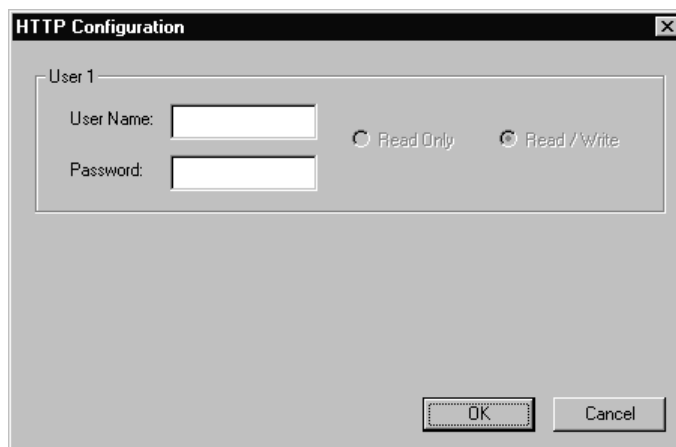

Figure 11.1 – HTTP Configuration Dialog
3. Click on the **Config** button next to the **HTTP (Web Server)** checkbox to open the HTTP Configuration dialog (Figure 11.1).